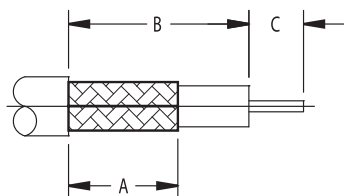

FIGURE 1
1. TRIM CABLE TO DIMENSIONS SHOWN. DO NOT NICK BRAID OR CENTER CONDUCTOR. (SEE FIG. 1)